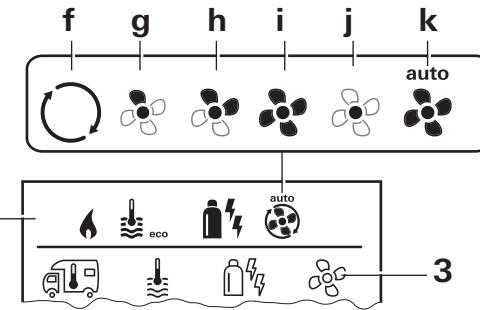

Fig. 5
1. Use the rotary push button to select the icon in the menu line (Fig. 5 – 3).